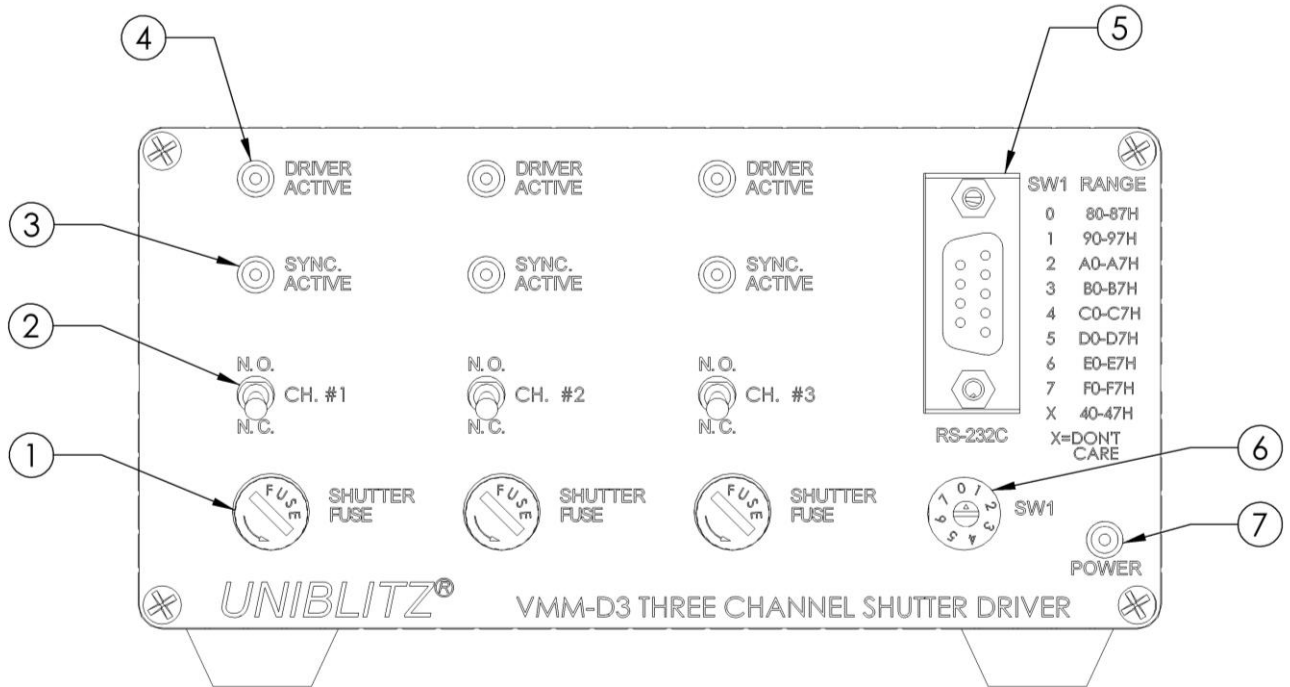

Figure 2: VMM-D3 Front Panel Layout
1. Please refer to Figures 2 and 3 for VMM-D3 and VMM-D4 panel layouts, respectively.
Please refer to Figures 2 and 3, respectively, for **VMM-D3** and **VMM-D4** Front Panel layouts, respectively, to become familiar with the placement of the various controls.